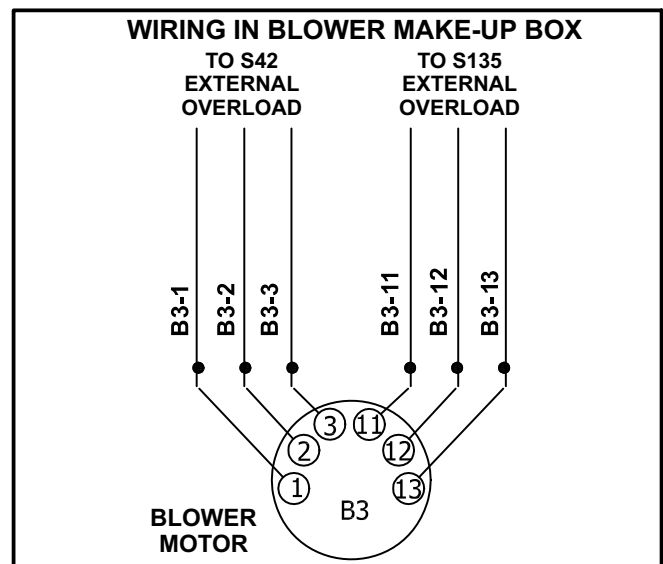

FIGURE 1
- 2- Open wire make-up box on blower motor and disconnect all six wires from motor leads. See figure 1.
- 5- Connect wires from replacement motor to the six wires remaining in the unit. Secure with wire nuts. See figure 1.